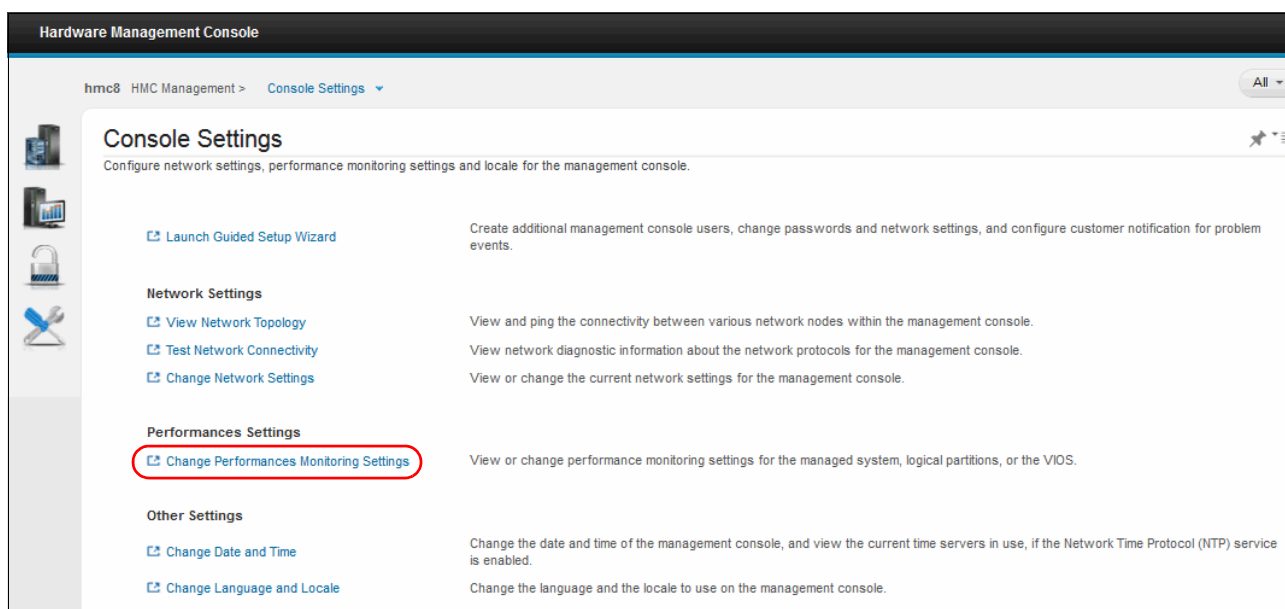

Figure 7-1 Change Performances Monitoring Settings
1. In the main window, click **HMC Management** → **Console Settings** → **Change Performances Monitoring Settings** (Figure 7-1).